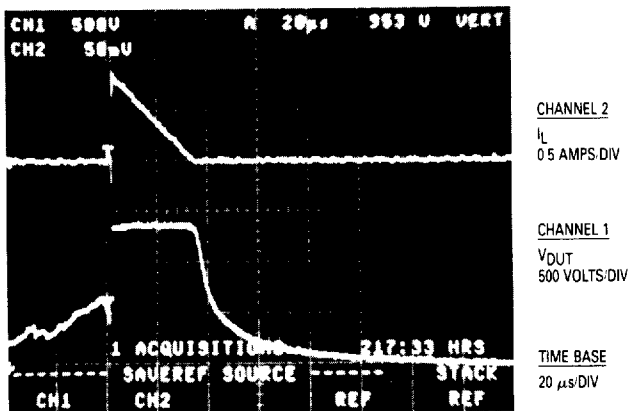

Figure 8. Current-Voltage Waveforms
The oscilloscope picture in Figure 8, shows the information obtained for the MUR8100E (similar die construction as the MUR1100E Series) in this test circuit conducting a peak current of one ampere at a breakdown voltage of 1300 volts, and using Equation (2) the energy absorbed by the MUR8100E is approximately 20 mJoules.